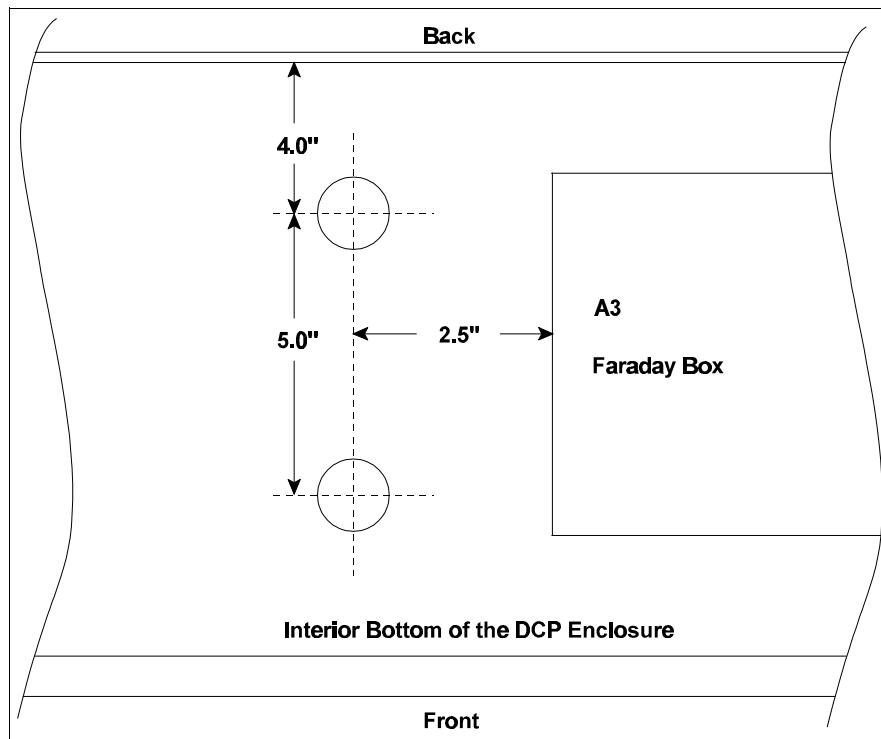

Figure 1 DCP Conduit Hole Locations
3. Using 1-1/2" greenlee knockout punch, make two holes in the bottom of the DCP enclosure to receive the liquid-tight conduit connection from the AUX box. Refer to figure 1.